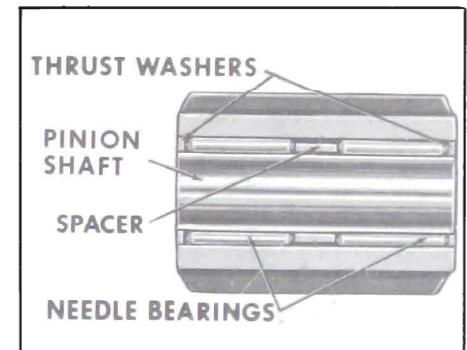

Figure 5-255
11. Remove needle bearings, spacer and two (2) thrust washers from the long planet pinion gear. See Figure 5-255.